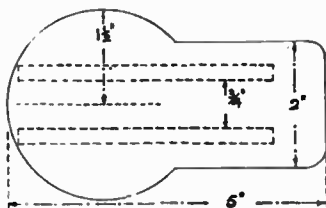
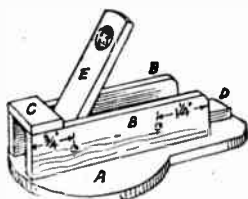

Fig. 3—Plan of the thrower
Fig. 2—The thrower
An admirable idea of this is got from the sketch, and from the view of the finished thing in Fig. 2. There is a base piece (A) of which a plan is given in Fig. 3, with all necessary measurements for drawing out the outline on the wood.
The dotted lines shown on the plan give the position of the side uprights (B), which measure 4 ins. by 1 in. On one of these sides must be carefully plotted the exact position of the two pivot-screw holes, and in Fig. 2 the measurements for these are given. First bore the holes in one side piece and then lay this on the second side in true position as a guide for running the holes through the second side. Glue the sides to the base in the positions given and then mark out and cut the small piece (C) which is intended to bind the two sides together and also to form a stop for the lever (E) when this is thrown upwards. The piece (C) measures 1½ ins. by ¾ in.